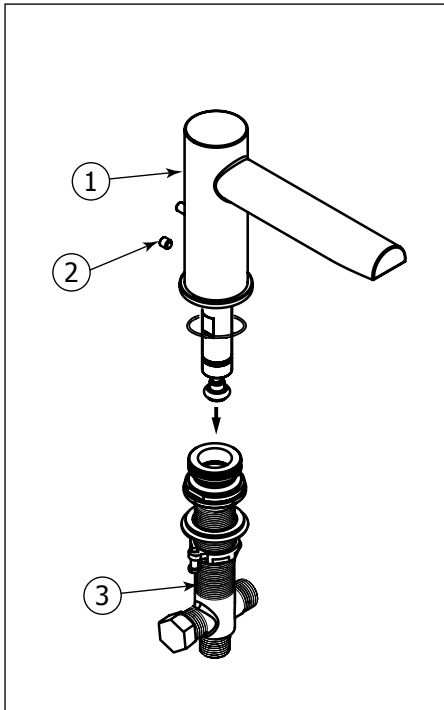

Fig.2
Remove the Allen setscrew (2) and pull out the faucet body (1) from the shank (3). Fig.2.
Dévisser la vis de retenue Allen (2) et séparer bec (1) de son raccord (3). Fig.2.